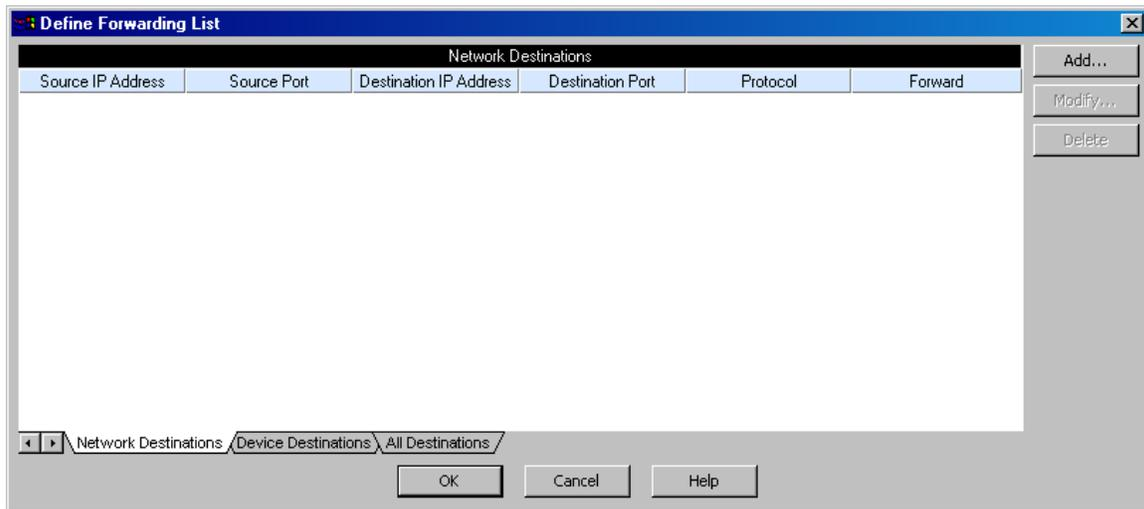

Figure 11 Define Forwarding List
3. Since you've turned Forwarding on you need to define the destinations where you want the packets forwarded. Push the **Define Forwarding List** button on the Options Tab and the Forwarding List dialog shown in Figure 11 will be displayed. This dialog has three tabs: Network Destinations, Device Destinations, and All Destinations. You can forward data to network destinations and device destinations. You add network destinations using the Network Destinations tab, and you add device destinations using the Device Destinations tab. The All Destinations tab shows the entire forwarding list. In this exercise we're just going to forward the packets to a network destination.